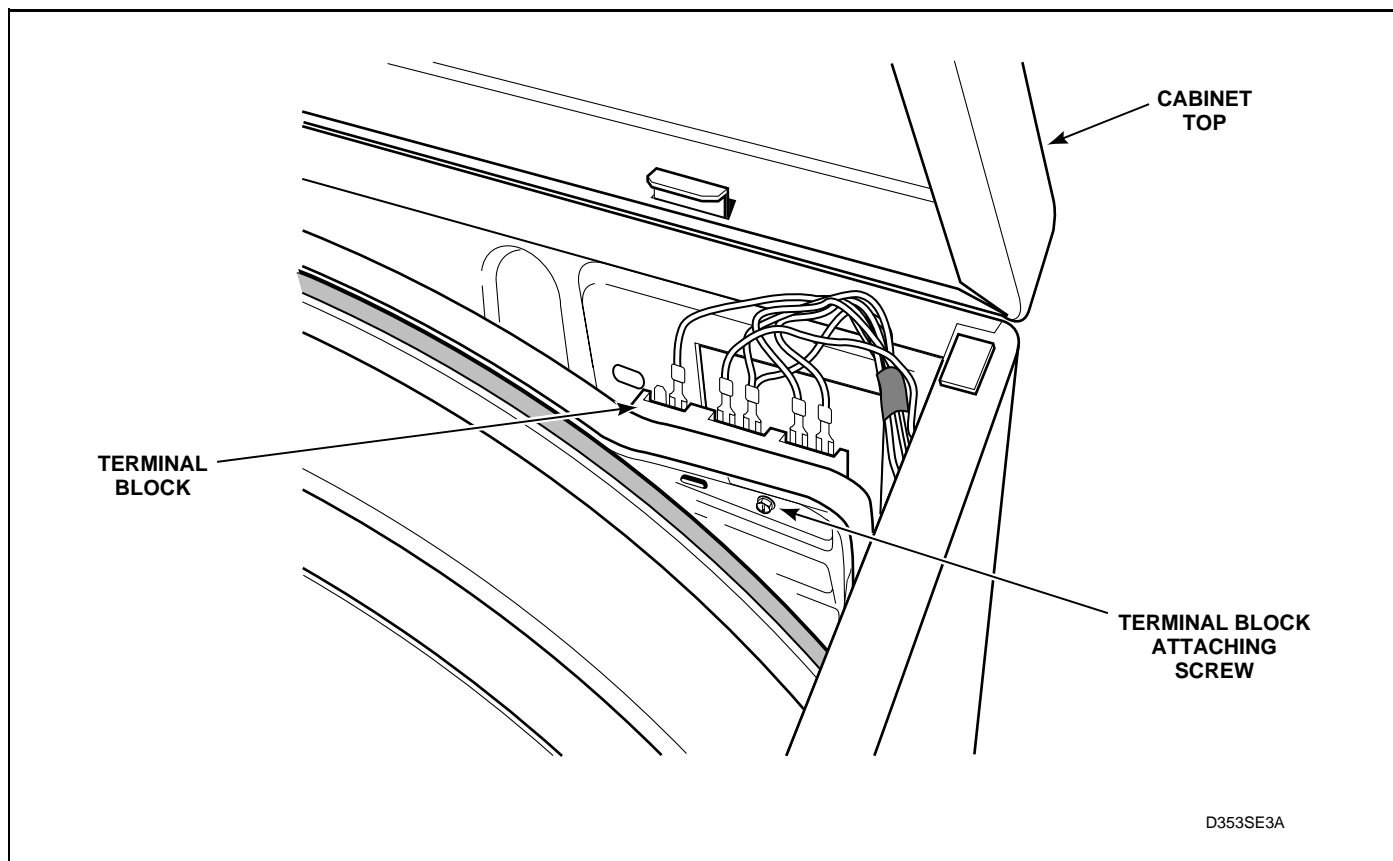

Figure 54
- (2) Remove all wires from terminal block. (Refer to appropriate wiring diagram when rewiring terminal block.)
- (3) Remove screw holding terminal block to rear bulkhead. See *Figure 54*.
- (7) Remove all wires from terminal block.
- (8) Remove screw holding terminal block to rear bulkhead. See *Figure 54*.
- (4) Remove two screws from each rear cabinet top hold-down bracket. See *Figure 54*.
- (5) Remove screw holding terminal block access plate to rear of dryer cabinet and remove plate.
- (6) Remove wire harness clips.
- (7) Remove locators and screws.